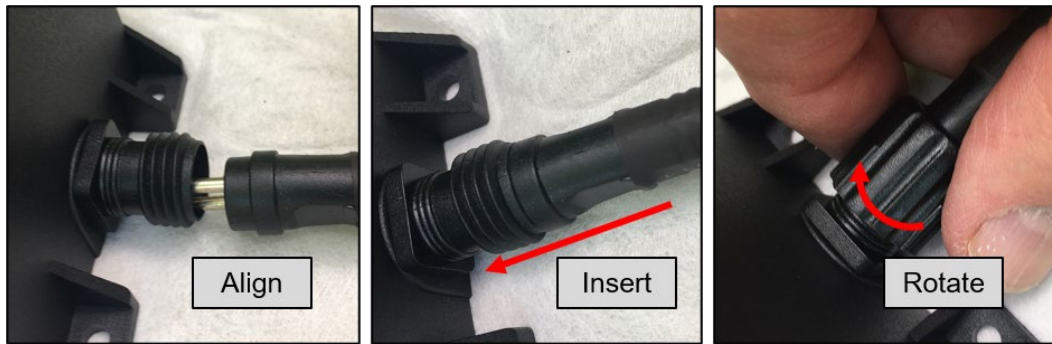

Figure 13 Connect Power Supply
- a. Align the burner unit plug with the power supply holes (Figure 13 left)
- b. Insert the plug until it is fully seated (Figure 13 center)